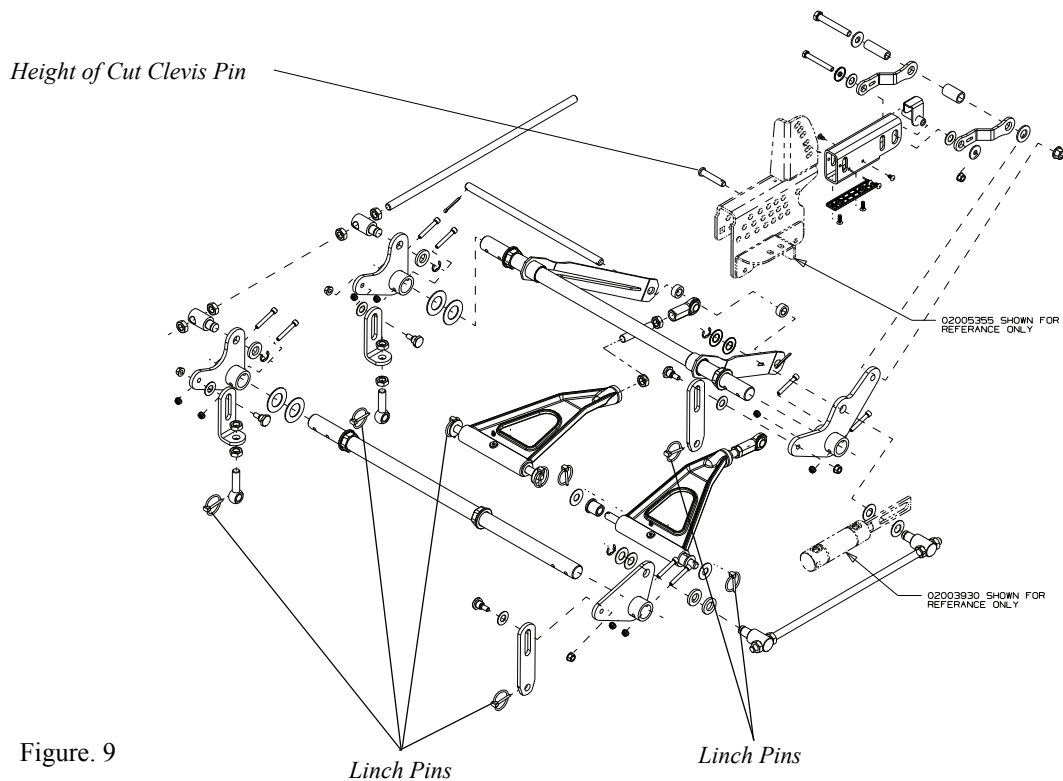

Figure. 9
- Remove six linchpins (See Fig. 9) (4) from the deck and (2) from the front of the mower. Remove the linchpins on the left and right rear side of the cutter deck (2); remove the linchpins on the left and right front side of the cutter deck (2); and remove the linchpins on the front of the mower (2).